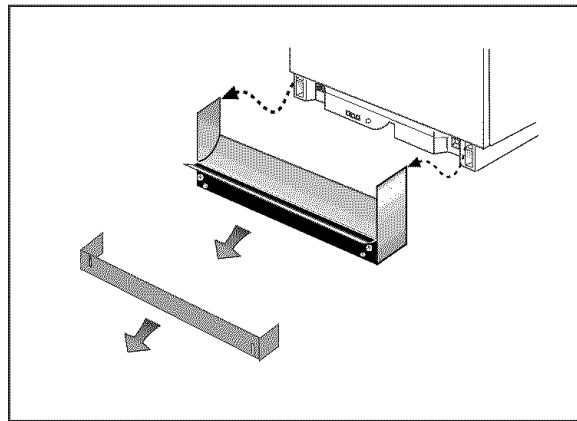

Figure 25
- Pull Toe Panel off (Figure 25).